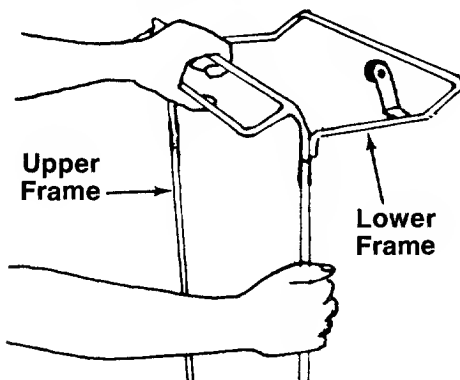

FIGURE 12.
2. Join the upper frame and lower frame assembly as shown in figure 12.